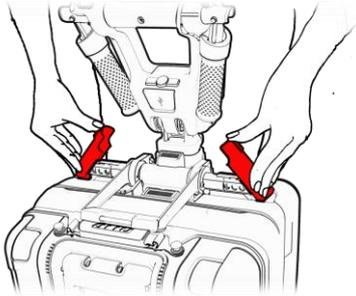

Figure 57
3. Close the two separation levers until they click (see Figure 57). In case the separation levers require a significant amount of force to operate, apply horizontal pressure on the driving console handle toward the center of the ATTO. This will release pressure on the separation levers and will make them easier to close.